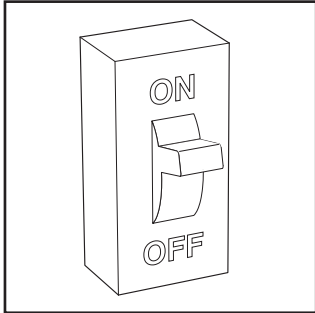

Fig. 11 - Turn On Electrical Supply
9. Turn ON the electrical supply to the furnace. See Fig. 11.
- 9. Turn on electrical supply to furnace (See Fig. 11).